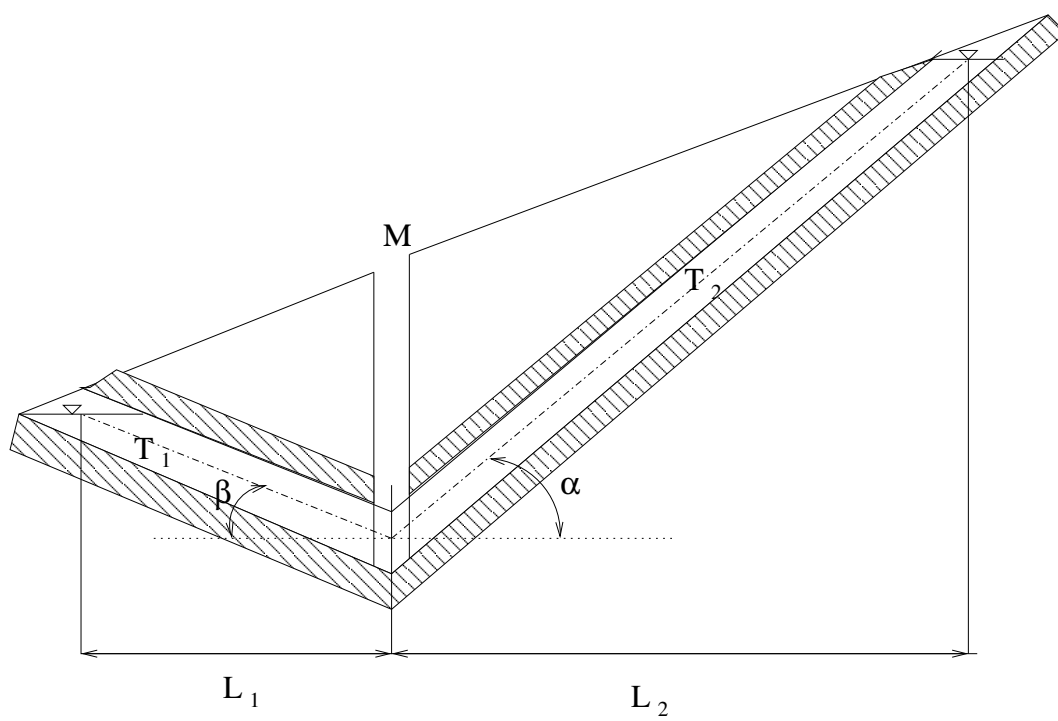

Figure 6: Exercise 7
7. The aquifer system in Figure 6 is formed by two confined aquifers characterized by transmissivities T_1 and T_2 , respectively. Water enters in the upper right portion of the system and exits as a spring in the lower left. Determine the head in the observation well M and calculate the conditions under which well M is artesian (water flows naturally out of the well).